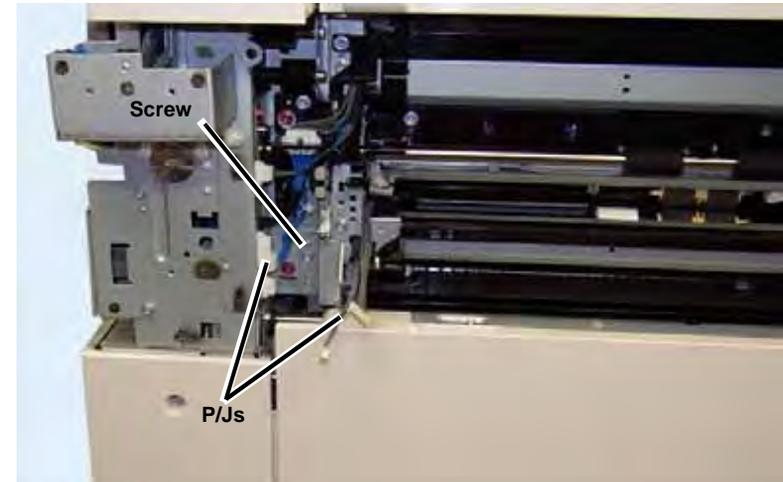

Figure 3 Removing Screws & P/J's
6. Perform the following (Figure 3).
- a. Disconnect Feeder 2 P/J's (2) and release the harness from the clamp.